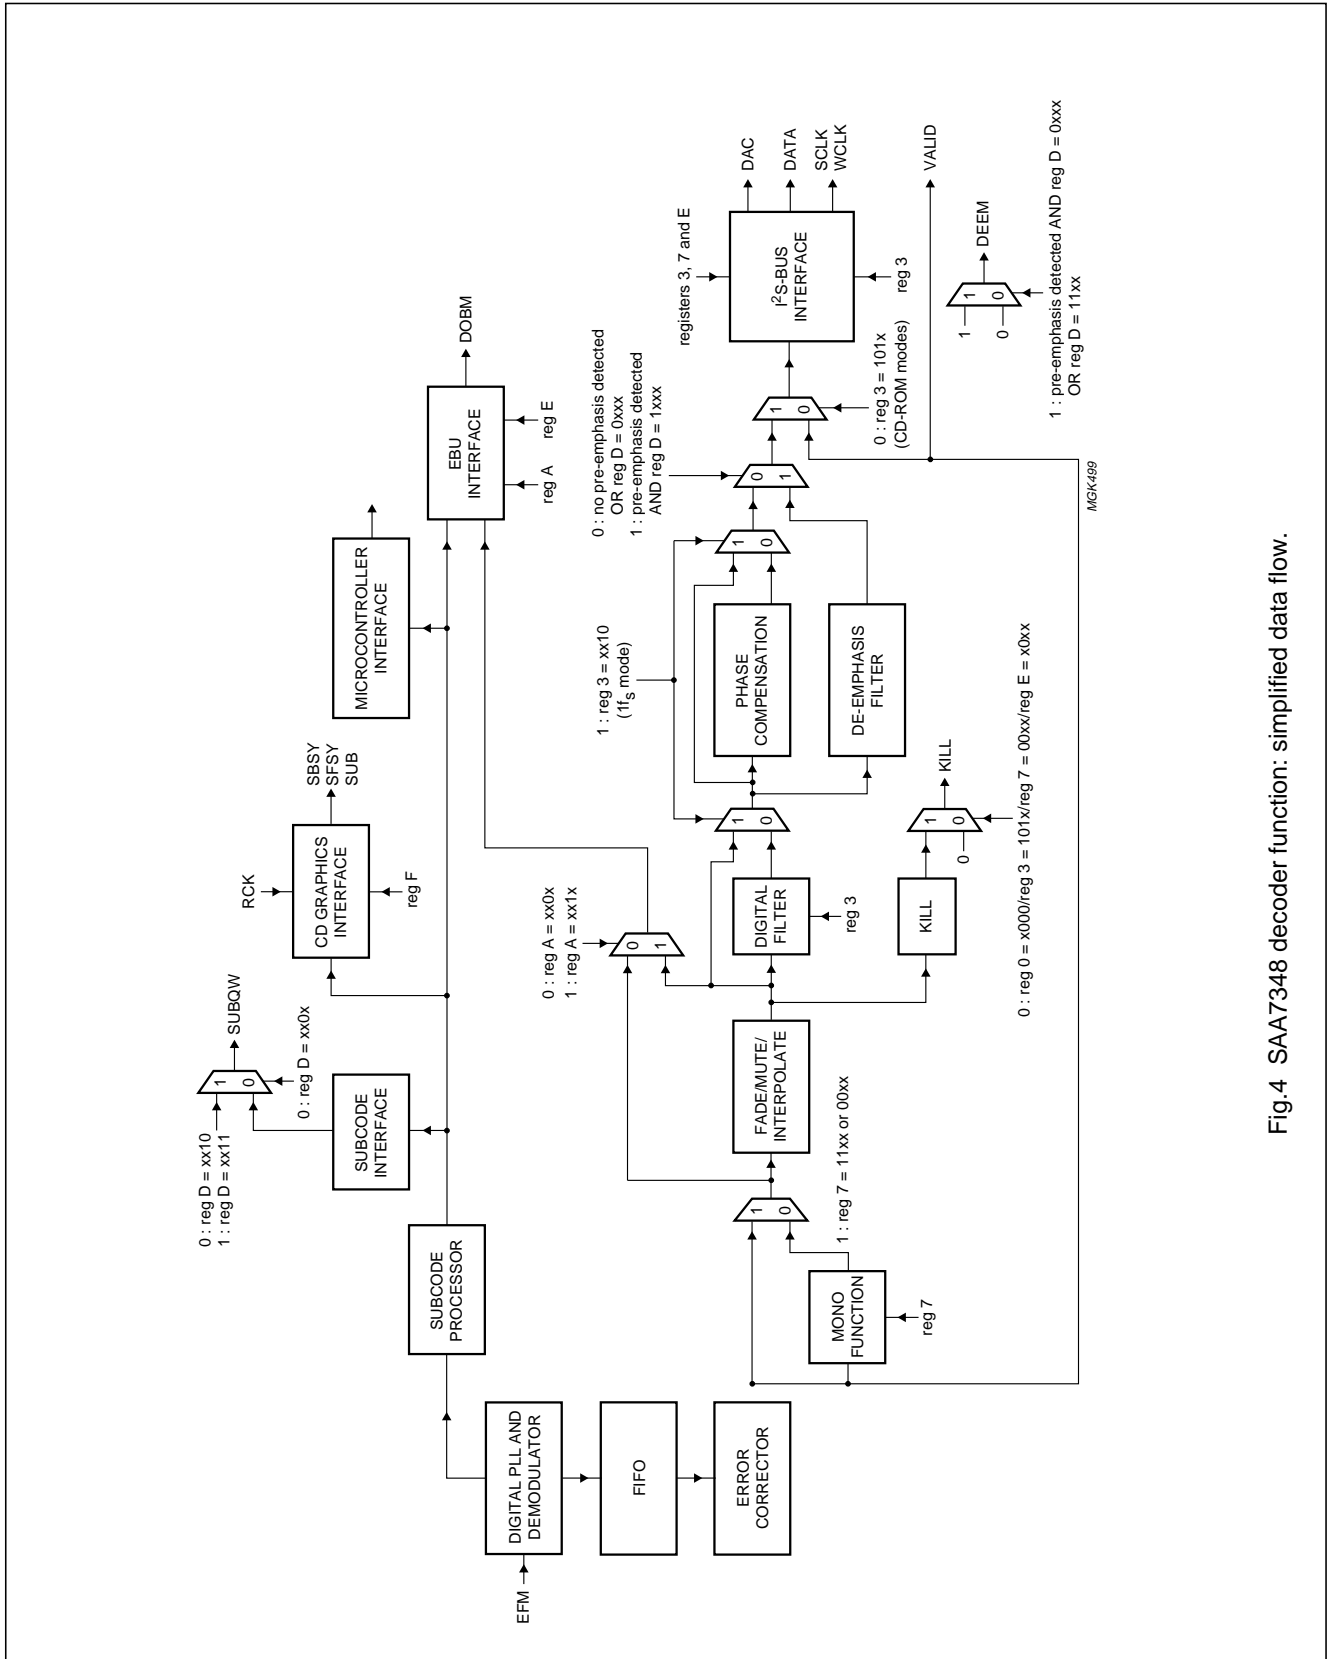

Fig.4 SAA7348 decoder function: simplified data flow.
- A simplified illustration of the data flow through the decoder is shown in Fig.4.